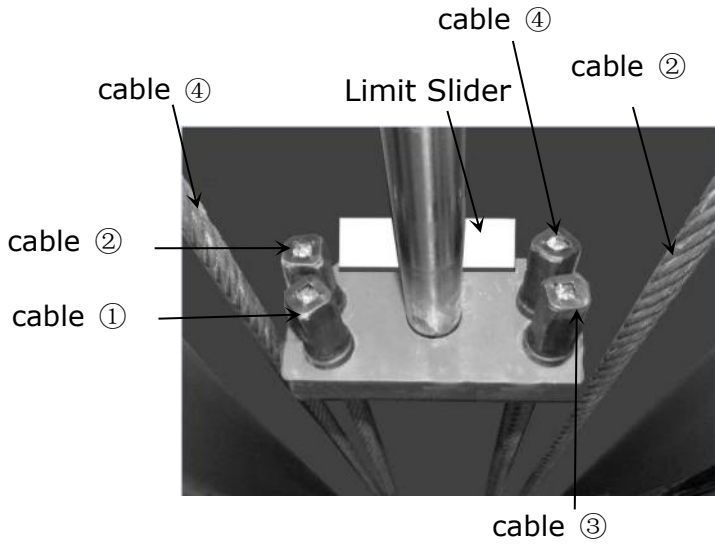
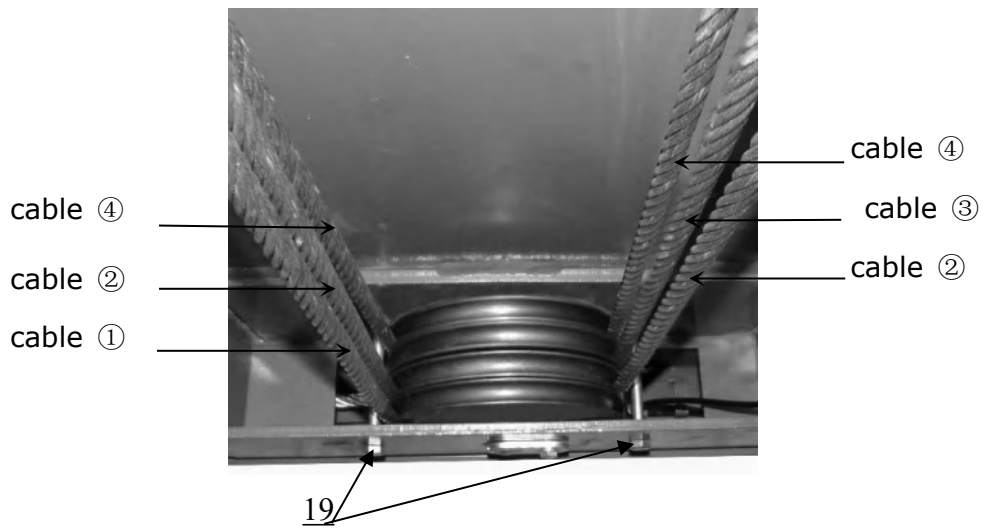
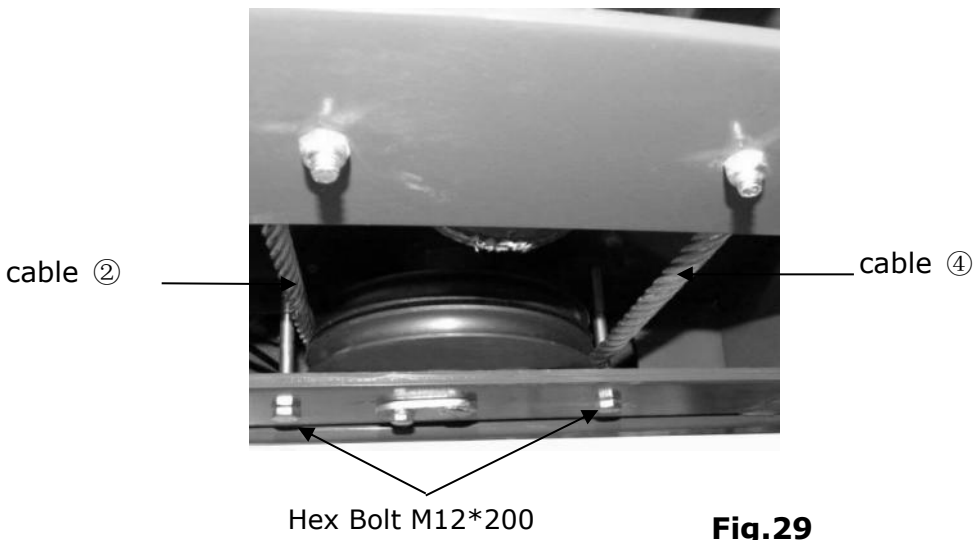

Fig.27
Fig.28
Fig.29
3. Illustration for platform cables (See Fig. 27, Fig.28, Fig.29)